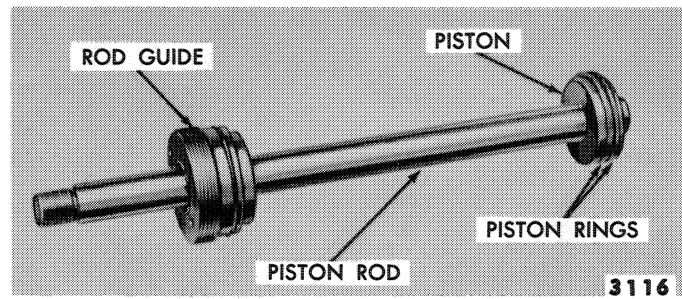

Figure 15—Piston Rod Assembly
11. Make sure the rod surface is smooth, then slide the rod guide onto the rod, Figure 15.